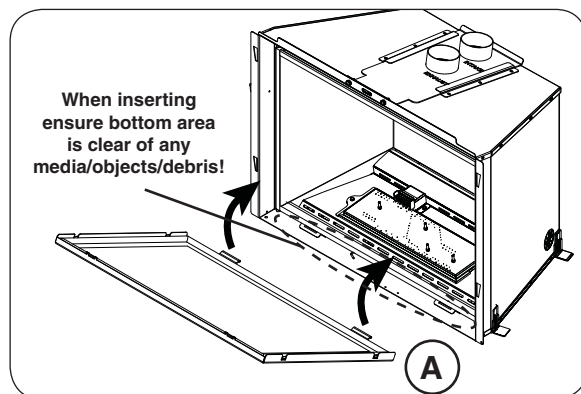

Fig. 31-1 Insert glass panel bottom
1. The bottom of the glass panel has two tabs. Insert the tabs into the two slots found on the bottom of the unit. Wear gloves. See Fig. 31-1, "A".